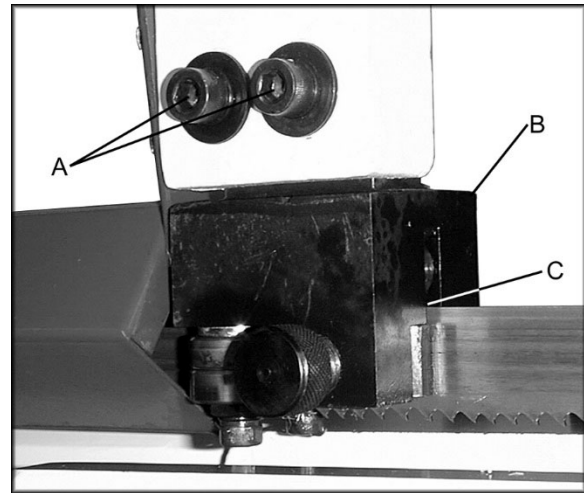

Figure 9
Refer to Figure 9.
2. Loosen two hex socket cap screws (A, Figure 9).
3. Move guide seat (B) up or down until an approximate clearance of .003" between blade and bearing is obtained, (C).
4. Tighten two hex socket cap screws (A).